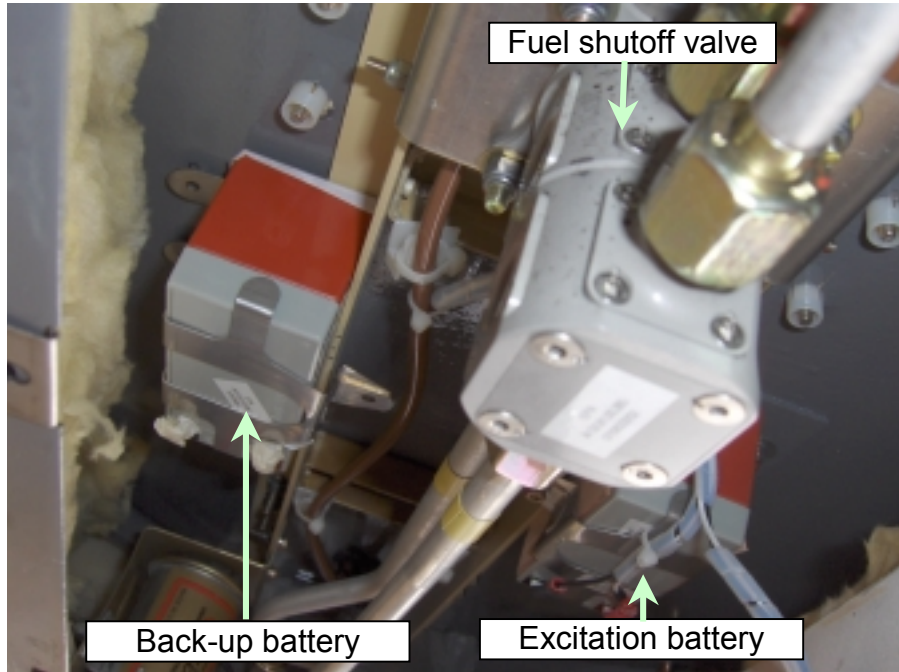

Fig. 24-2c. Location of alternator excitation battery and FADEC back-up battery
- (1) Disconnect the main battery. Refer to 3, Disconnect/Connect the Main Battery for Maintenance.
- (2) Locate the excitation battery (Fig. 24-2c).
- (3) Disconnect the negative cable from the excitation battery.
- (4) Disconnect the positive cable from the excitation battery.
- (5) Remove the battery support.
- (6) Remove the excitation battery from the airplane.
- (2) Locate the back-up battery (Fig. 24-2c).
- (3) Disconnect the negative cable from the back-up battery.
- (4) Disconnect the positive cable from the back-up battery.
- (6) Remove the back-up battery from the airplane.